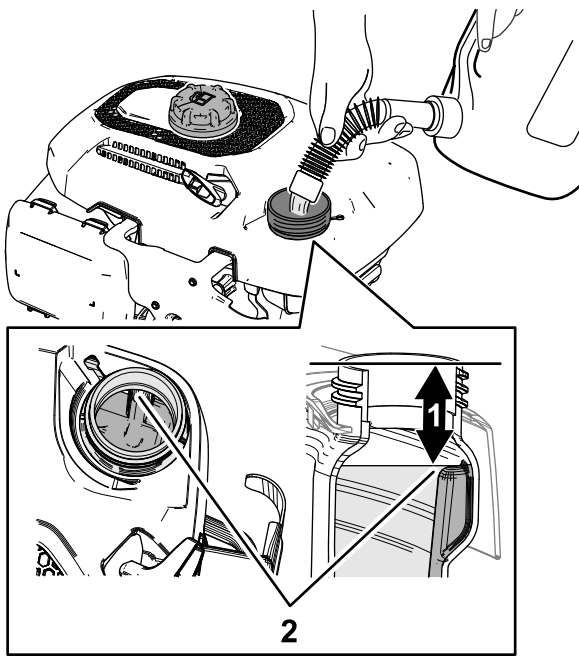

Figure 20
2. Fill the fuel tank with the specified fuel as shown in Figure 20.